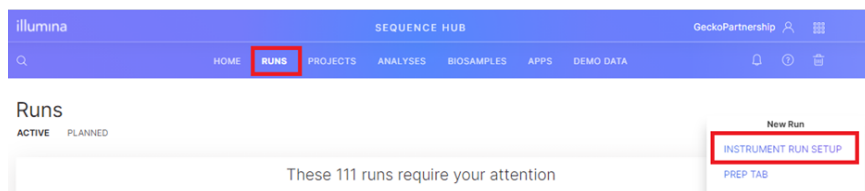

Figure 20: Instrument run setup
3. Create a run by selecting **Runs** then **Instrument Run Setup** (see Figure 20).